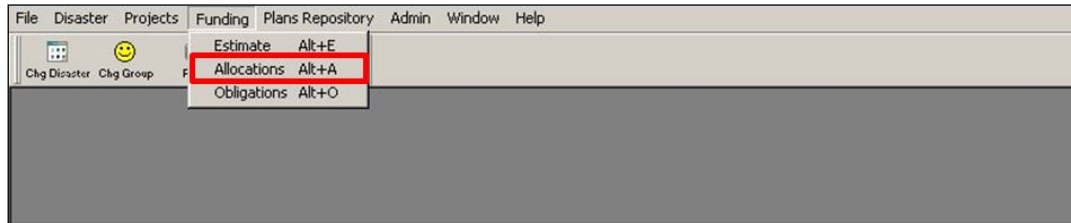

Figure 10-22: Mitigation > Funding > Allocations
1. On the MITIGATION menu, click on Funding > Allocations (Figure 10-22).